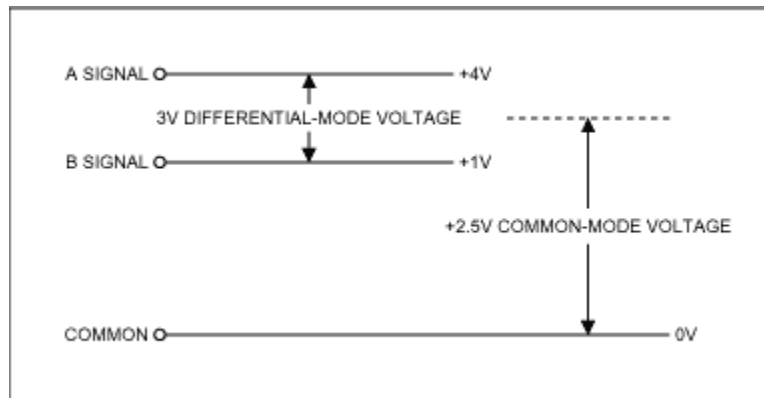

Figure 3. Typical RS-485 transmitters generate a common-mode dc Offset voltage as shown.
Figure 3 shows a 3V differential-mode signal riding on a 2.5V common-mode signal. The dc offset is typical of differential-mode data transmitters operating from a single supply. The common-mode voltage can be ac, dc, or a combination of ac and dc. (Figure 3 represents the simplest case - a dc common-mode voltage with no ac component.)
- E_{OS} is typically a dc offset introduced by a differential-mode driver operating from a single supply, as represented in Figure 3.